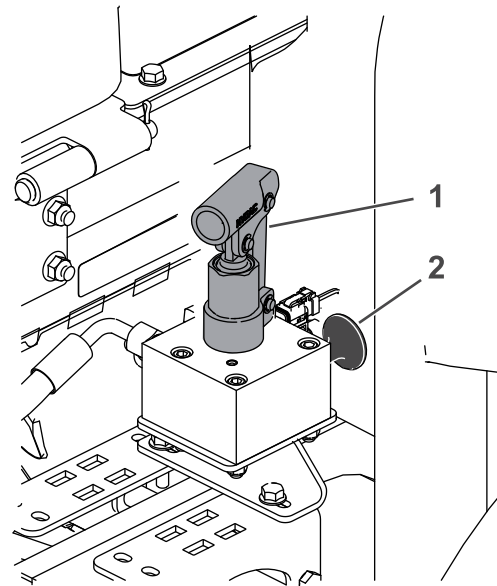

Figure 36
4. Locate the brake release manifold near the front right tire and behind the hydraulic tank (Figure 36).